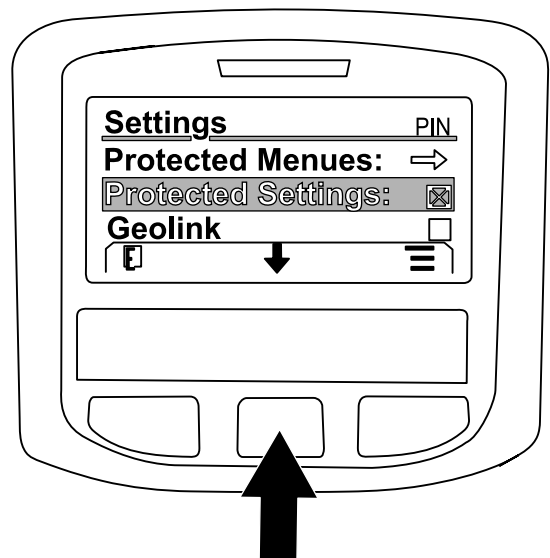

Figure 232
7. Press the center button to navigate to the GEOLINK option, and press the right button to set the option (Figure 232).